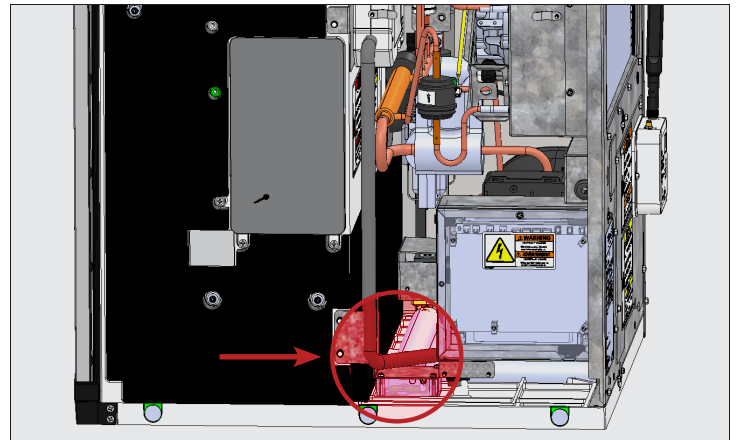

Fig. 1. Ice level sensor assembly location.
3. Remove the 2 screws holding the bracket to the plastic case. See fig. 1.